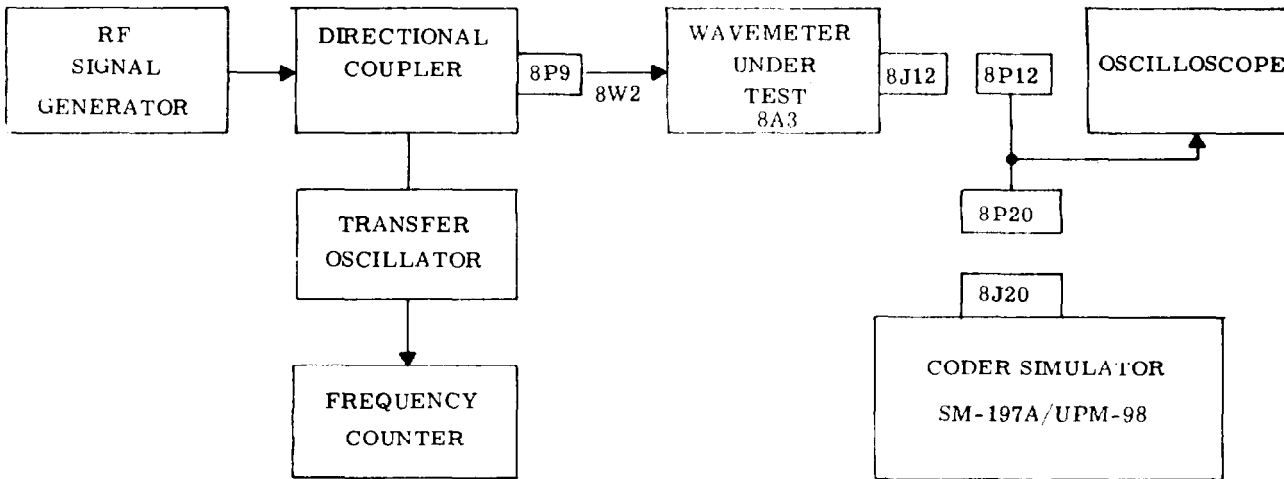

Figure 5-16. Wavemeter Assembly 8A3, Calibration Test Setup
- Step 1. Connect Radar Test Set AN/UPM-98A and test equipment as shown in figure 5-16. For this procedure set POWER switch on SM-197A/UPM-98 in OFF position.